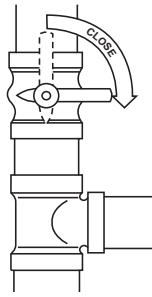

Fig. 5 – Close Valve
2. Close the external manual gas valve (see Fig. 5).
- Close the external manual gas valve (see Fig. 5).